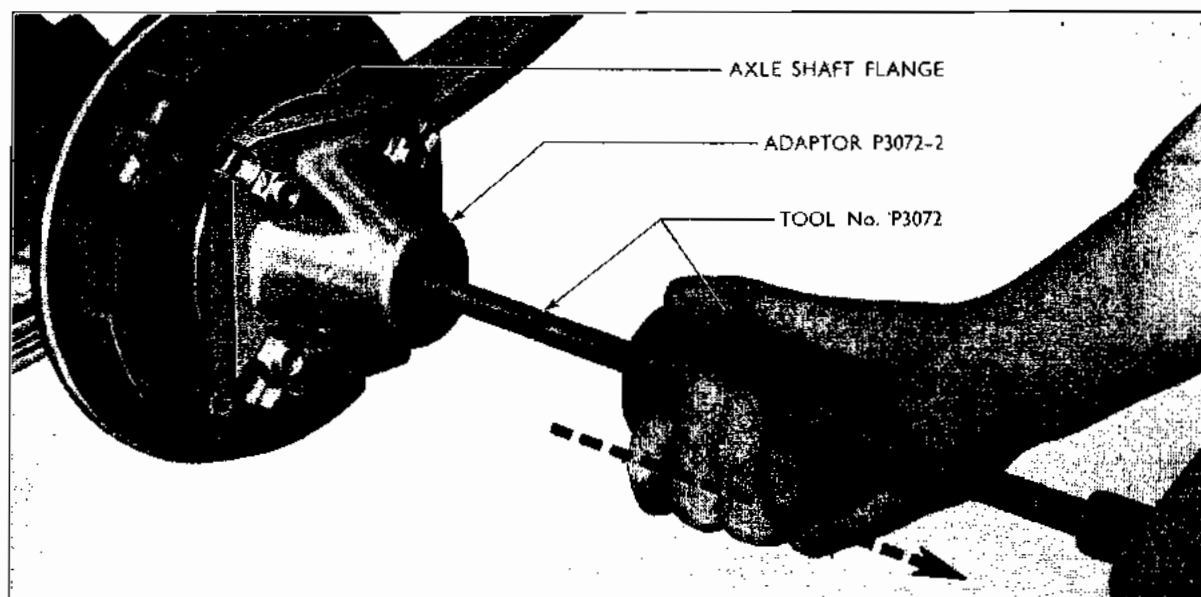

Fig. 6
4. Withdraw the axle shaft. Secure the base of the axle shaft removing tool (Tool No. P.3072-2, see Fig. 6) to the axle shaft flange by means of the wheel nuts, screw the centre bolt of the tool into the base already secured to the axle shaft flange and, by operating the slide hammer mounted on the centre bolt, withdraw the axle shaft.